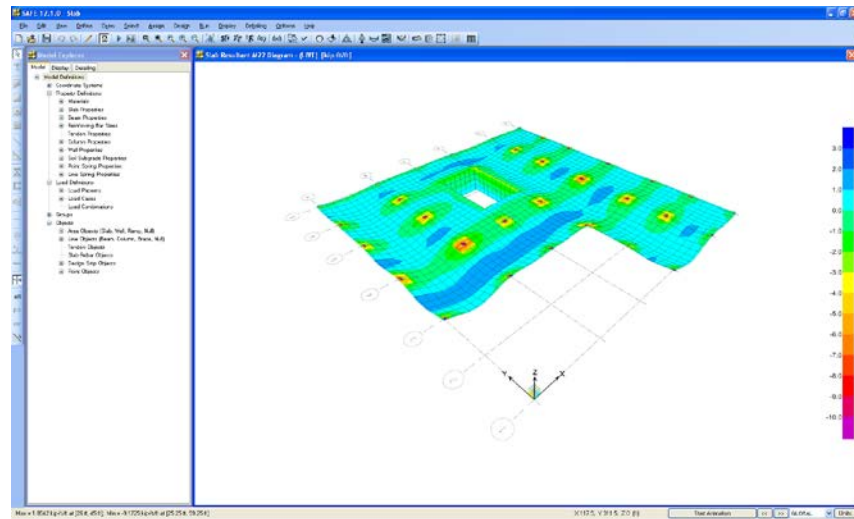

Figure 39 M22 Moment Diagram
- N. Click the **OK** button to generate the moment diagram shown in Figure 39.